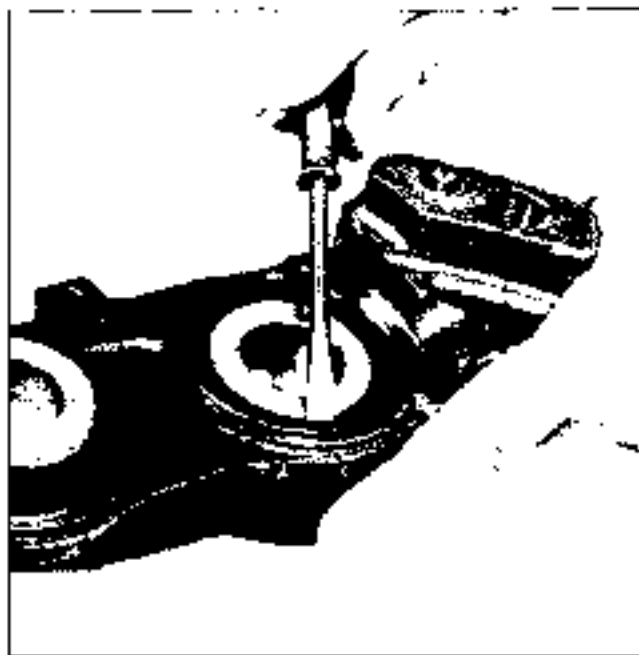

Fig. 5D-2 Removing Piston Boot
1. Assemble seal in groove in piston which is closest to flat end of piston. The lip on the seal must face toward large end of piston. Be sure seal lips are in piston groove and do not extend over step in end of groove. (Fig. 5D-3)